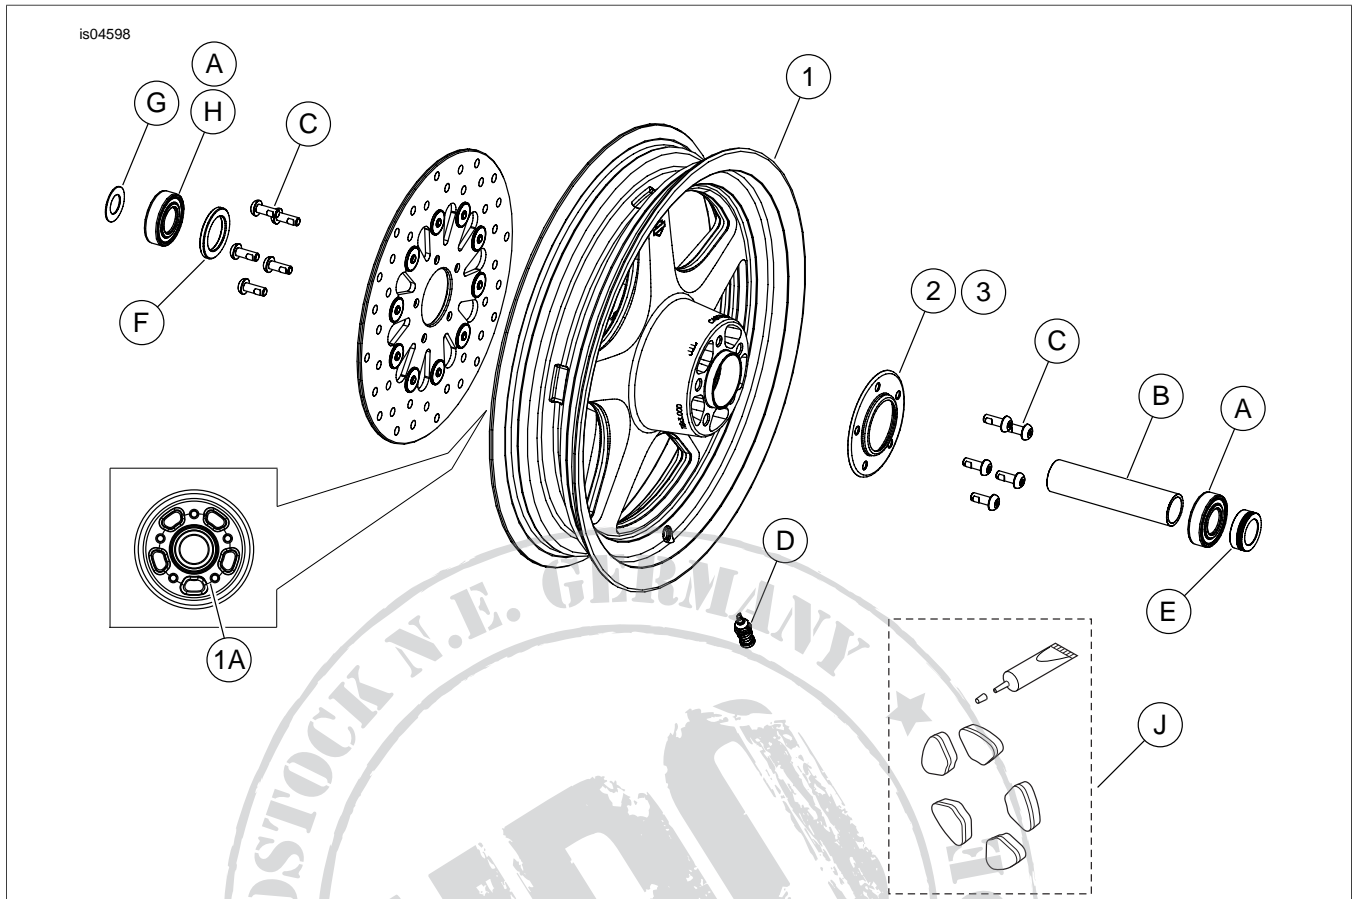

Figure 1. Service Parts: FRONT THUNDERSTAR WHEEL KITS (21-inch wheel shown)
2. See Figure 1. Install valve stem assembly (D) on wheel. Refer to TIRES in Service Manual.